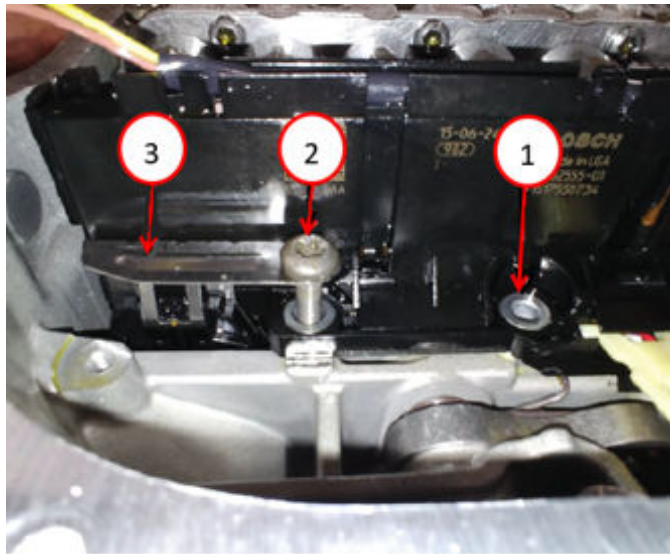

Fig. 9
13. Remove the valve body assembly end retainer bolts Fig. 9.